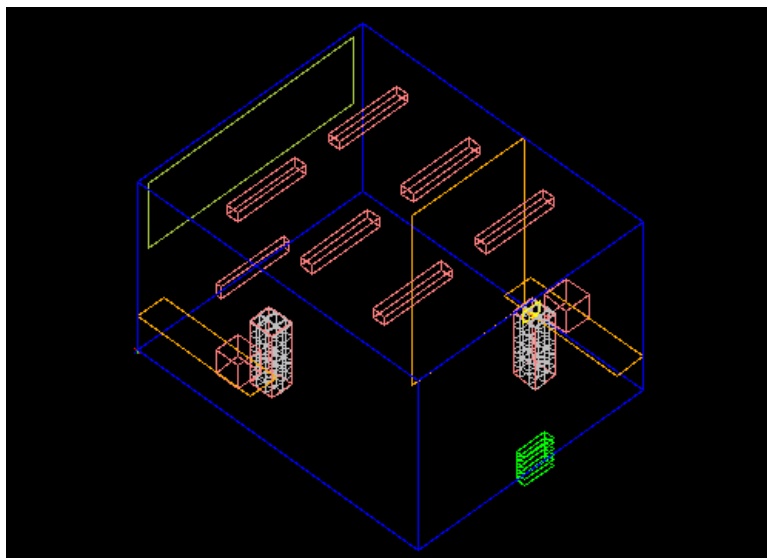

Figure 26.9.3: Display of Volume Elements
- Choose **Volume** to display the mesh inside volumetric objects (e.g., cylinder blocks, prism resistances). An example is shown in Figure 26.9.3.